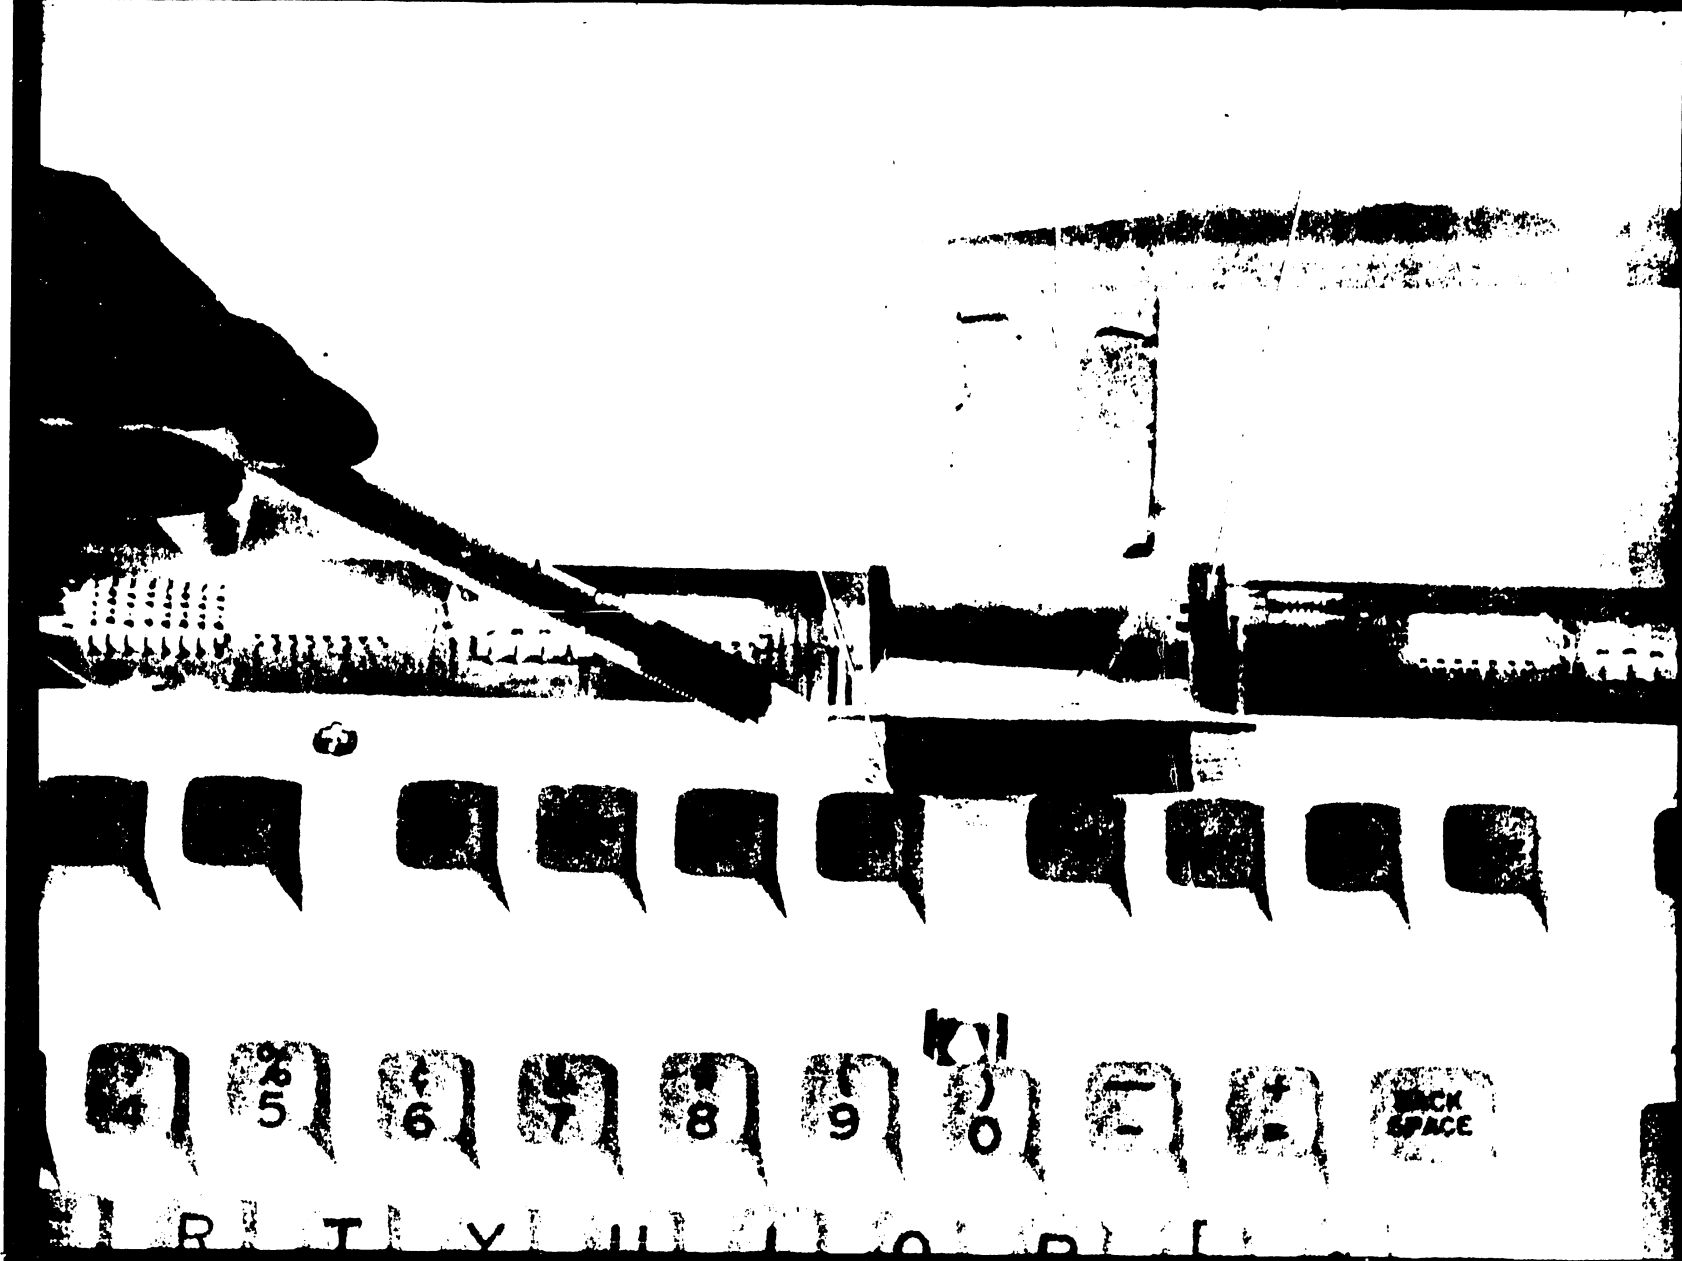

FIGURE 3-8 REMOVAL AND REPLACEMENT OF KEYBOARD
2. To disconnect the keyboard from the workstation perform the following steps: (See figure 3-8)